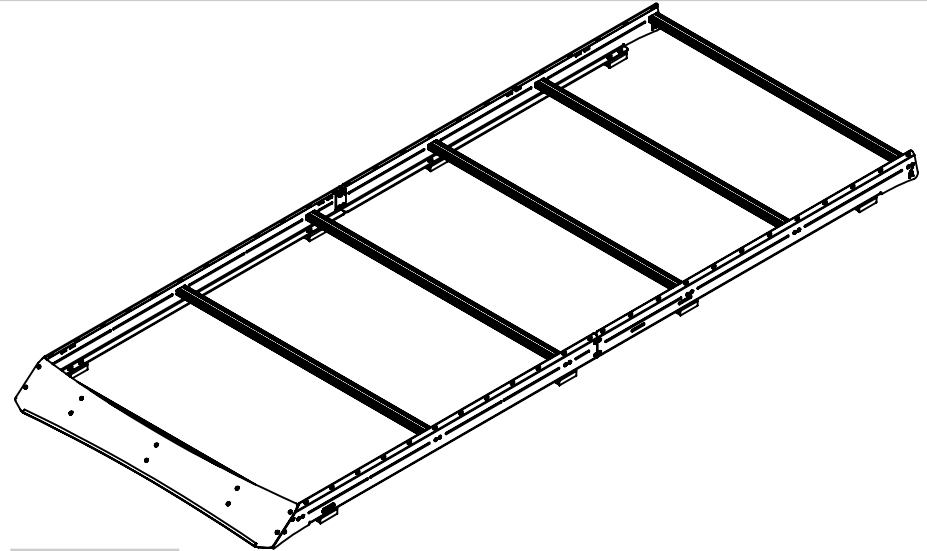

FIG 8
3.1 Layout Crossbar Locations: Position the crossbars in your desired locations, loosely threading in the **1/4-20 Flange Head Screws** to hold in place (**FIG 8+9**).